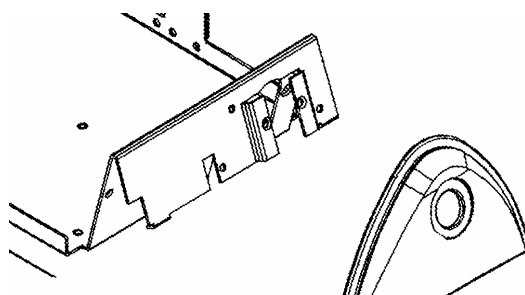

Figure C-4: Locating the Organizer Injector Panel
- a) Place the Organizer Injector Panel with the hole (Part Number 70-5229) onto the organizer chassis plate (Figure C-4).